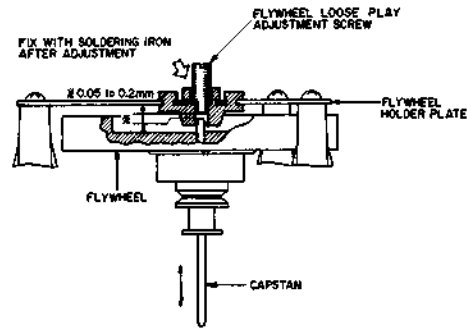

Fig. 4 Flywheel Loose Play Adjustment
1. FLYWHEEL LOOSE PLAY ADJUSTMENT (Refer to Fig. 4)